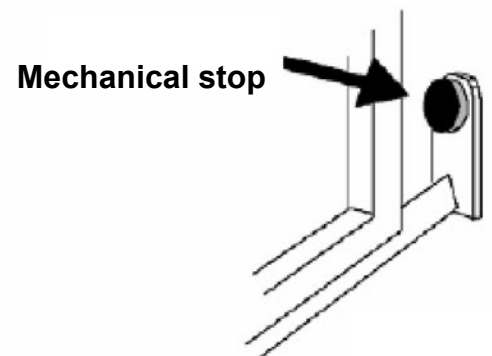
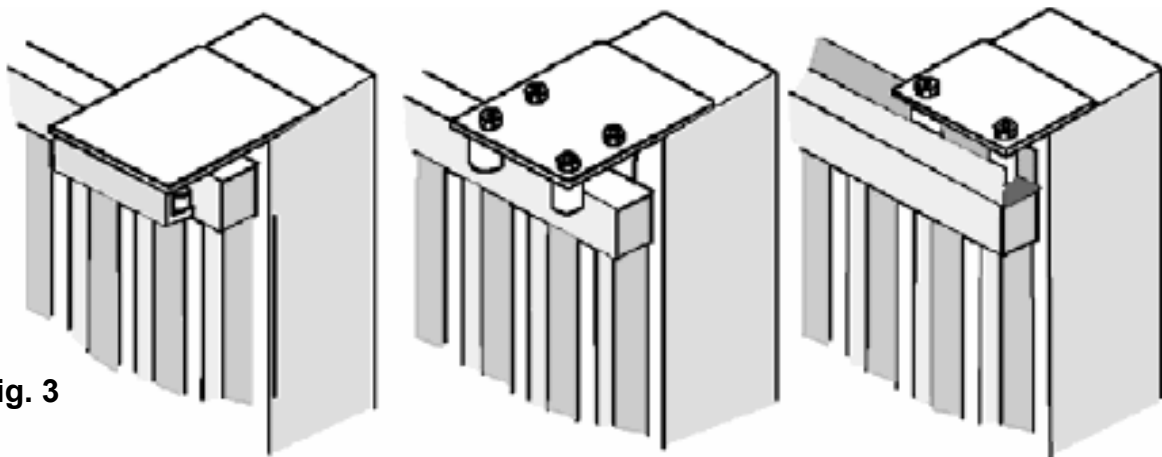

Fig. 2
Fig. 3
- Also check that the runner on the ground ( **Fig. 1** ) is not deformed, is perfectly level and that the mechanical stop is present on opening ( **Fig. 2** ) in order to **prevent** the gate from going beyond the upper runners ( **Fig. 3** )
- Check the upper runner ( **see Fig. 3** ) is firm and the gate slides freely.
Fasten the rack to the gate firmly, leaving a distance of between 2 and 3 mm from the motor pinion **(Fig.2)**.
Limit switches can be installed on the pillar or in the desired position depending on the needs and they can be electromechanical or magnetic. **(Fig. 3)**